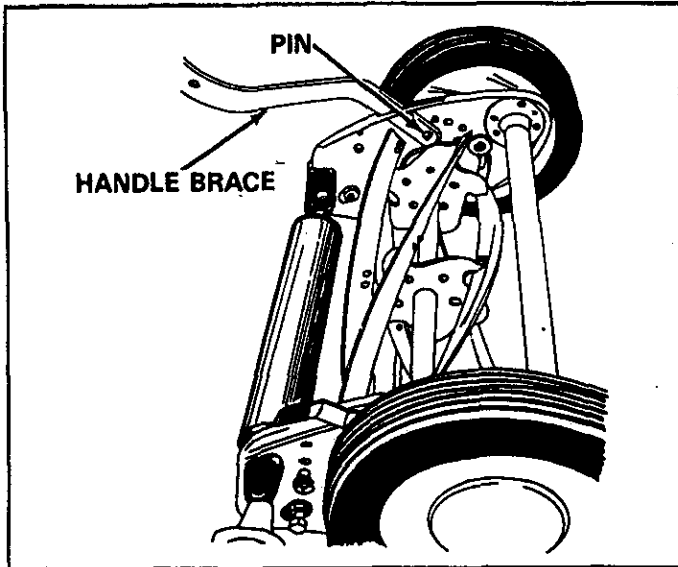

FIGURE 1
- (1) Pliers
- Insert the short ends of the two handle braces through the slots and over the two pins in the end plates. See figure 1.